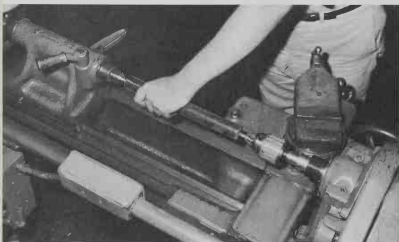

Fig. 10-17. Center drilling on the lathe.
6. Put the center punch mark of one end of the stock on the drill point. Holding the work piece steady, turn the tailstock wheel to bring the dead center into the other center punch mark carefully, Fig. 10-17.